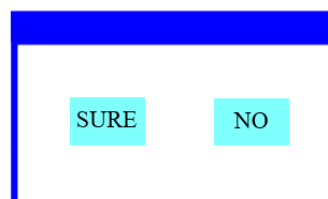

Figure 2 Dialog of confirm
- When the parameter is a key item, click corresponding item, a dialog shown in Figure 2 will be popup ask for the confirm. Click 'sure' to confirm.